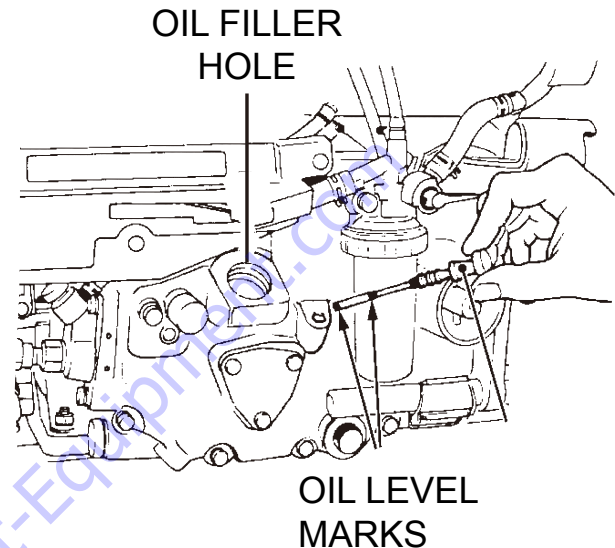

Figure 3. Engine Oil Level
2. Remove the filler dipstick from the engine oil filler hole (Figure 3) and wipe clean.
3. Insert and then remove the dipstick again. Check that the oil level is between the two oil level marks on the dipstick (Figure 3).